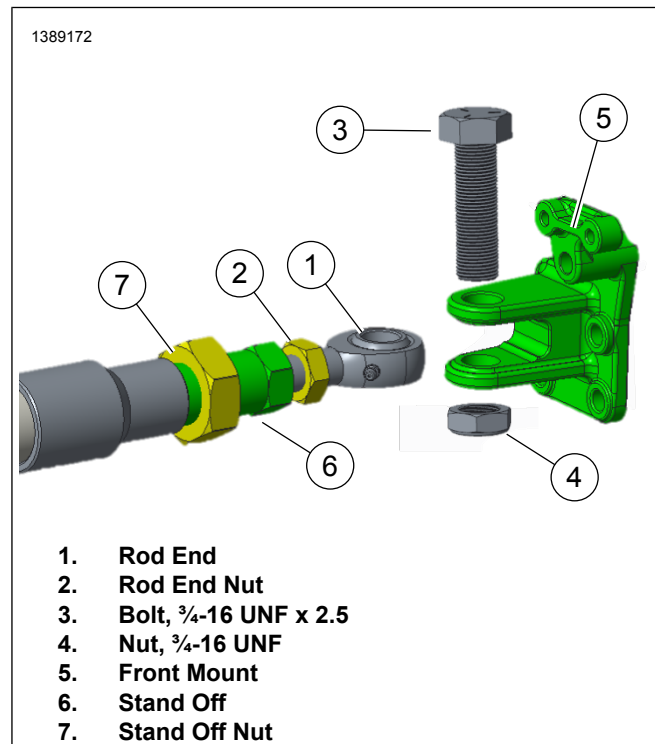

Figure 2-37. Front Sidecar Connection
3. See Figure 2-37. Turn front rod end (1) and stand off (6) all the way into frame tube and then turn rod end back out 1-2 turns.
4. Install front rod end into front mount (5). Install bolt (3) and nut (4). Tighten to 48-58 ft-lbs (65-79Nm).